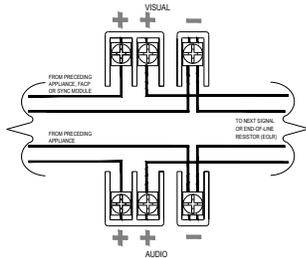
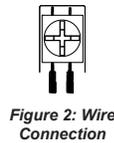

Figure 1: Speaker Strobe Wiring
Figure 2: Wire Connection
2. Break all in-out wire runs on supervised circuits to assure integrity of circuit supervision as shown in Figure 2. The polarity shown in Figure 1, the wiring diagram is for operation of the appliances.
3. **Pre-Wire:** Connect field wires to terminals on mounting plate (reference Figure 1 and 2). Ensure the speaker wiring is connected to speaker terminals only, and strobe wiring is connected to strobe terminals only. Use care and proper techniques to position the field wires in the backbox so that they use minimum space and produce minimum stress on the product. This is especially important for stiff, heavy gauge wires and wires with thick insulation or sheathing. When terminating field wires, do not use more lead length than required. Excess lead length could result in insufficient wiring space for the signaling appliance.